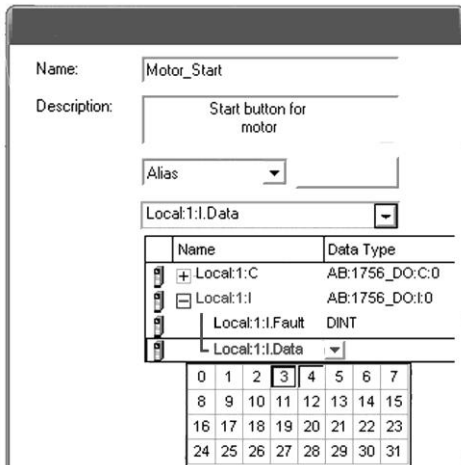

Figure 15-8 Window for question 11.
11. Figure 15-8 is an example of creating a tag in the